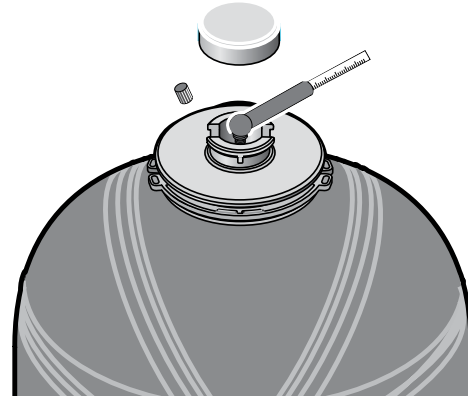

Figure 3: Use A Tire Gauge To Check Precharge In Air Cell
2. Remove pole piece cap and check air pressure at the air valve in top of tank with a standard tire gauge. See Figure 3. Air pressure should be 2 psig below pump pressure switch cut-in setting (if switch closes at 30 psig, pressure in tank should be at 28 psig).